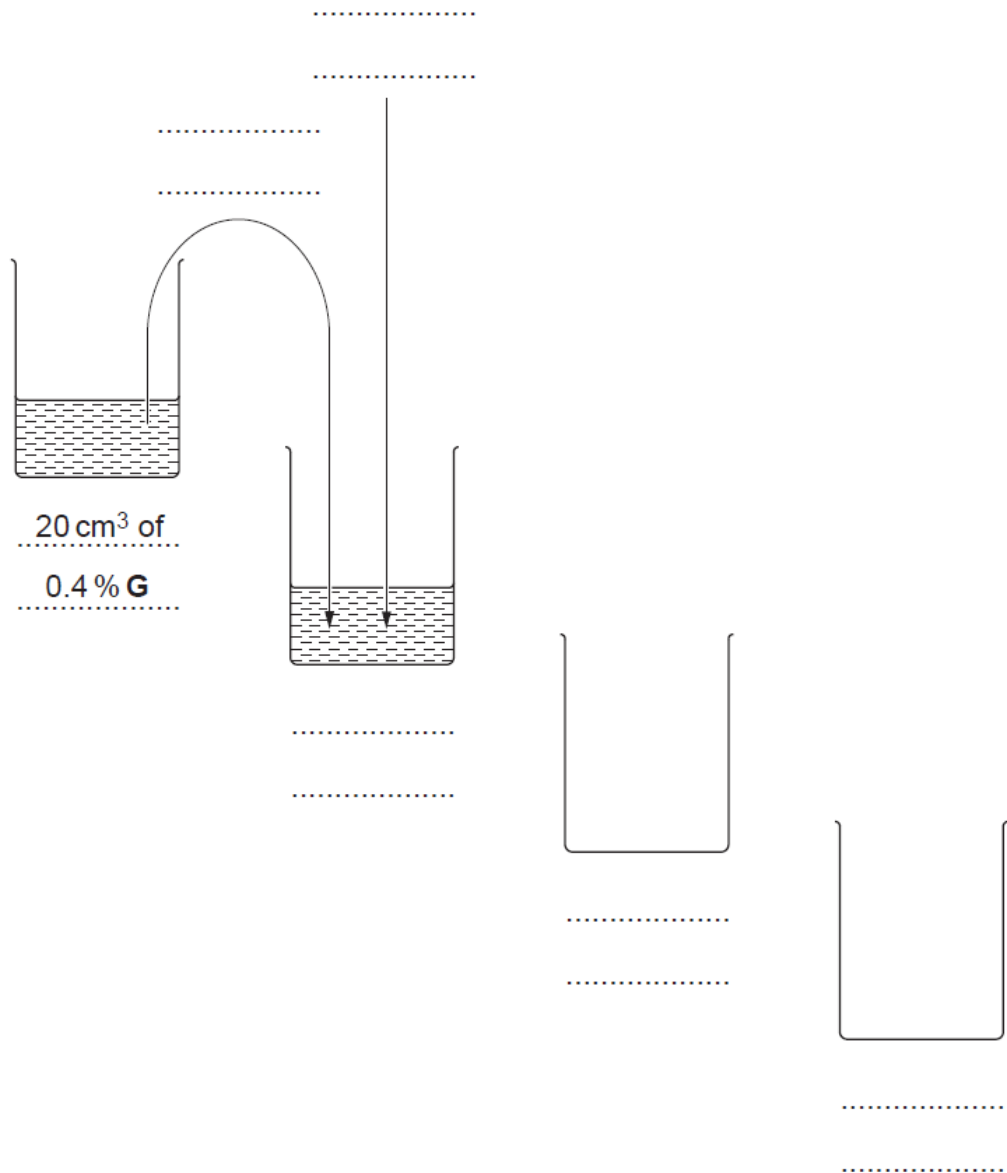

Fig. 1.1
- (i) Complete Fig. 1.1 to show how you will make three further concentrations of reducing sugar, **G2**, **G3** and **G4**. You should use serial dilution to reduce the concentration by half between each concentration.
- 4 Prepare all the concentrations of the reducing sugar solution which are stated in Fig. 1.1, in the beakers provided.